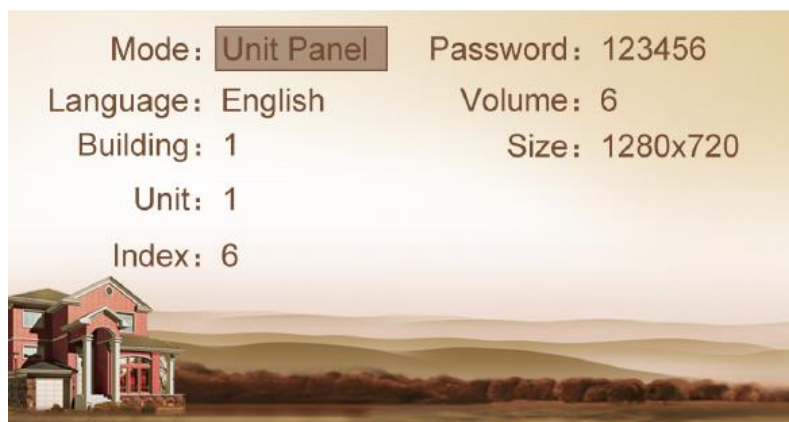

Figure 15 : Device Mode interface of the Outdoor Panel
Press the key “#” to go to settings. The LCD screen will display as shown in Figure 15. Press the number key 2 or the icon ▲ to page up, and press the number key 8 or the icon ▼ to page down. If the device is used as unit panel, it can only call the indoor monitors in this unit. If the device is used as wall panel, it can call all the indoor monitors in the whole community.